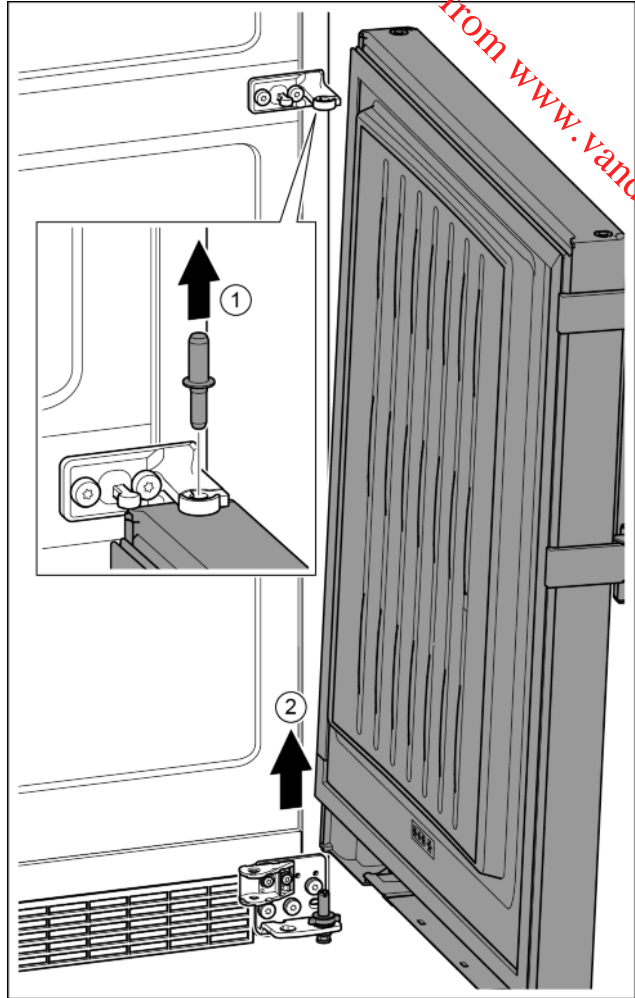

Fig. 23
- Remove the bolts in an upward direction. Fig. 23 (1)
- Swivel the door out, pull it upwards and set it to one side. Fig. 23 (2)